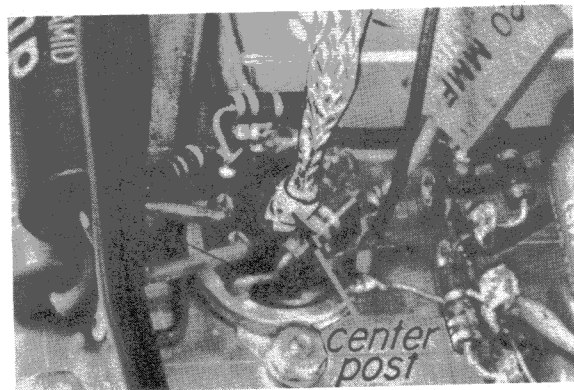

Fig. 21-17
Step 4. Cover the lead from the 20- μ f capacitor (C_{10}) with a 1/2-inch piece of spaghetti and cut the lead, leaving about 1/4-inch of wire projecting. Connect this wire to pin 7 of the 12AU7 socket, as shown in Fig. 21-17. Connect the hookup wire from
Step 5. Roll the other end of the ground braid together in your fingers until it is round and small enough to fit inside the tube-socket ground post. Push the end of the braid into the tube-socket center post and solder it in place. Your tube socket should then look like Fig. 21-17.